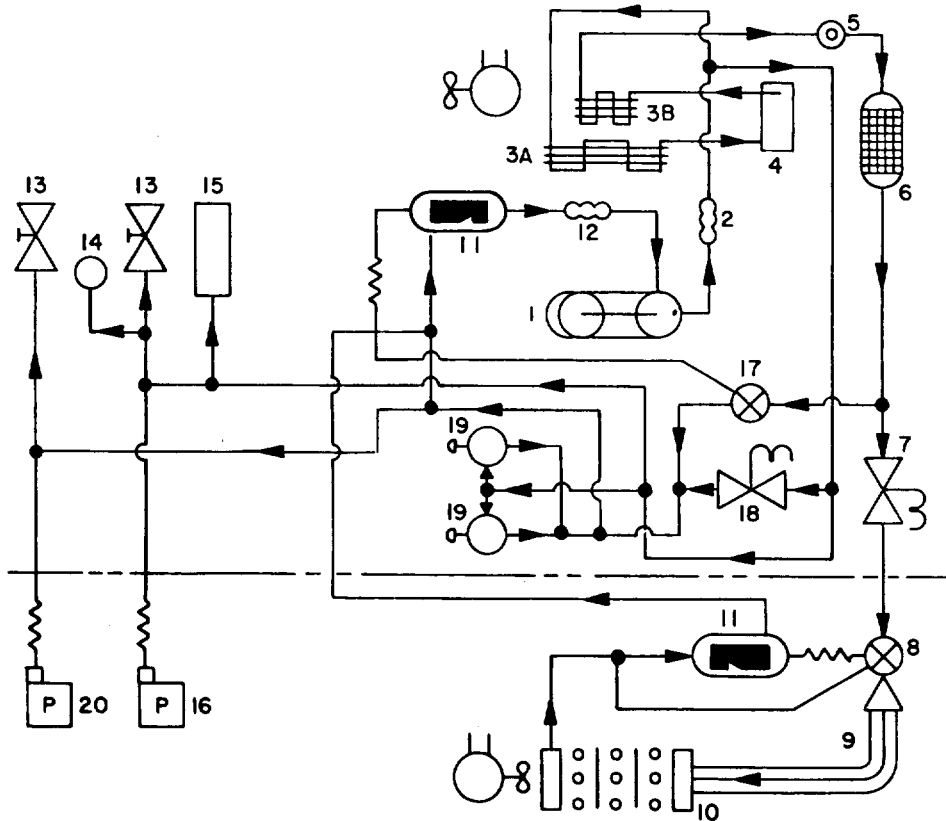

Figure 1-3. Refrigeration Schematic
- a. Cooling Cycle. (See fig. 1-3.)
- The COMPRESSOR (1) takes cold, low pressure refrigerant gas and compresses it to a high temperature, high pressure gas. This gas flows through the metal tubing to the SPLIT CONDENSER COIL (3A) and (3B) and RECEIVER (4).